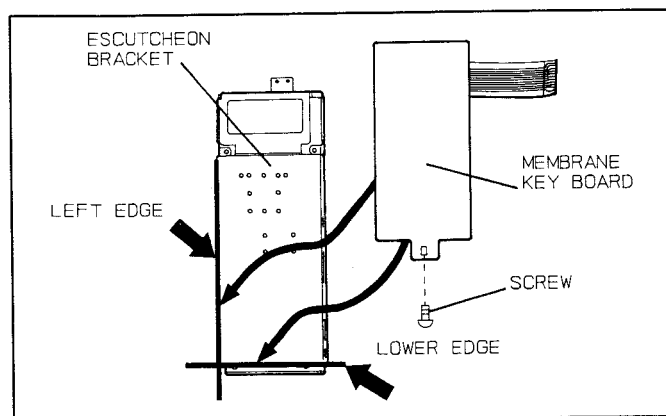

Fig. 19
- Remove 1 screw holding membrane key board's tab and peel off the membrane key board from the escutcheon bracket. (**Fig. 19**)
NOTE 3: Make sure new membrane keyboard is aligned to the left and lower edges of the escutcheon bracket. (**Fig. 19**)